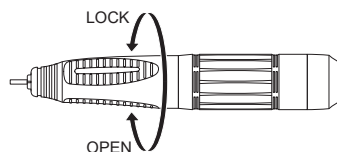

Fig. 6
- 1) Turn the bur lock ring in the OPEN direction shown in the Fig. 6 until it clicks to open the chuck.
- 2) Turn the bur lock ring in the LOCK direction shown in the Fig. 6 until it clicks to close the chuck. After attaching the bur, pull it back and forth to confirm that it is connected securely.